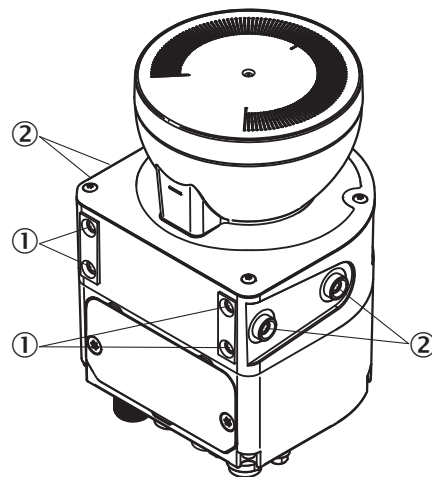

Figure 48: Mounting the safety laser scanner directly
- ① Rear M5 threaded hole
- ② Side M5 threaded hole
- ▶ Use either the rear or the side M5 threaded holes for direct mounting, see figure 48, page 70.